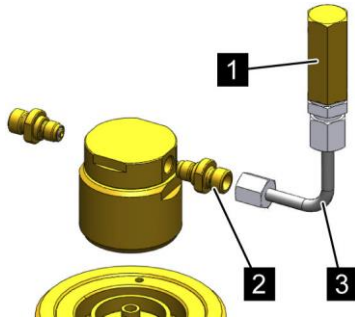

Fig. 69: Mounting the malfunction pressure safety device
2. ➤ Install the adapter (Fig. 69/2) at the outlet of the last pneumatic release device in the pilot line in such a way that the "malfunction pressure safety device" (Fig. 69/1) can be screwed onto the adapter connector piece (Fig. 69/3) from above.
3. ➤ Screw the "malfunction pressure safety device" (Fig. 69/2) directly onto the adapter connecting piece or onto the adapter connecting piece that is fitted onto the pipe segment.